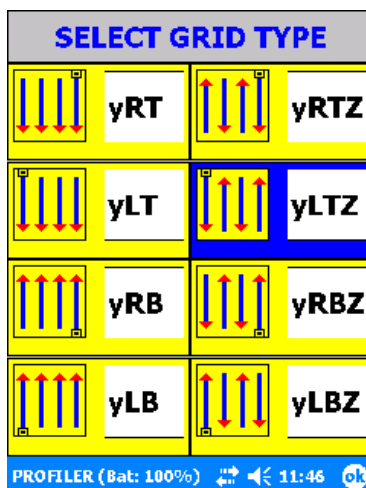

Figure 54: Select Grid Type (Y) menu.
- **xLB**: X-axis profiling starting at the left bottom (LB) corner of the survey grid with all transects proceeding in the same direction (unidirectional).
- **xLBZ**: X-axis profiling starting in the left bottom (LB) corner of the survey grid with lines collected in a zigzag (Z) fashion (bidirectional).
- All of the icons on the left of the display are for surveys conducted in one (1) direction.
- All of the icons on the right of the display are surveys conducted in a zigzag manner. For example **xRBZ** indicates X profiling conducted in zigzag (Z) fashion starting from the right bottom (RB) of the survey grid.
- To conduct profiling in the Y direction, select Direction for Y Traverse and Grid Type. Figure 54 illustrates the Y Traverse, Y Grid Types.